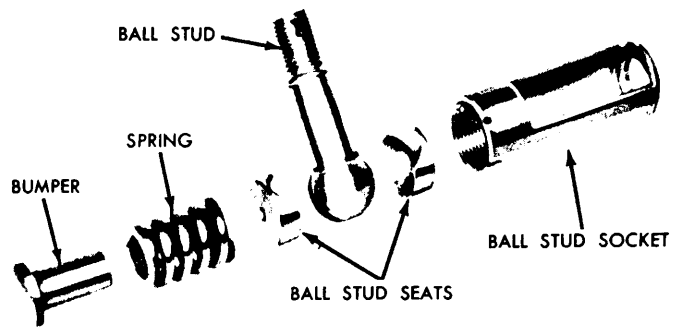

FIG. 13—Ball Stud Parts
3. Place the other ball stud seat, the spring, and the bumper (Fig. 13) in the socket, and install and securely tighten the travel regulator stop.